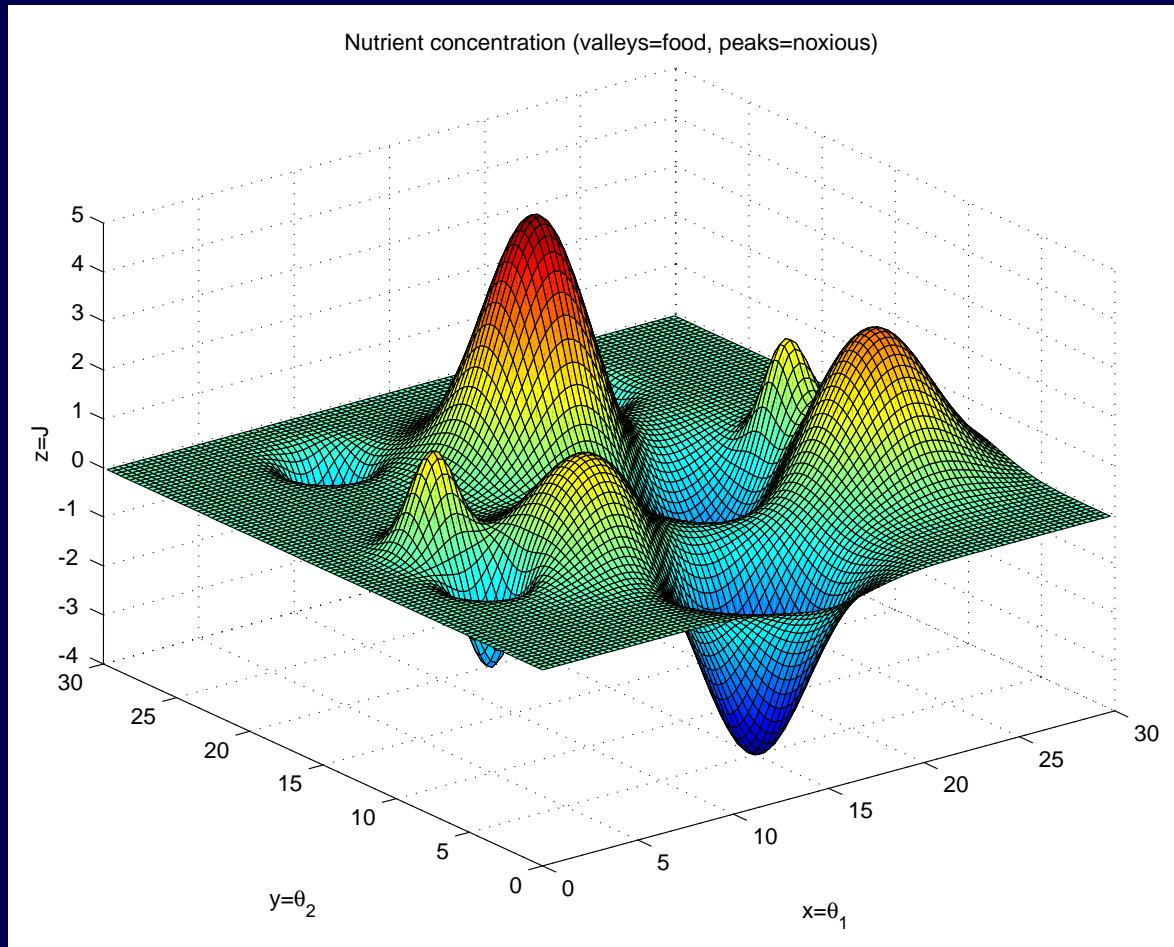

Figure 13: Function with multiple extremum points.
- Find minimum of function in Figure 13 ($[15, 5]^\top$ is the global minimum point, $[20, 15]^\top$ is a local minimum).